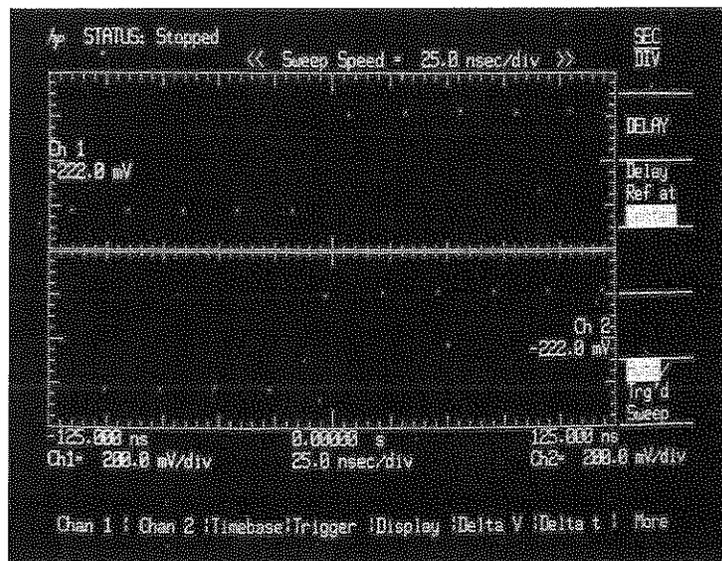

Figure 7-35. Effects of Ch to Ch SKEW on Waveform Math.
12. Press the STOP/SINGLE key to initiate a single acquisition. See Figure 7-35.